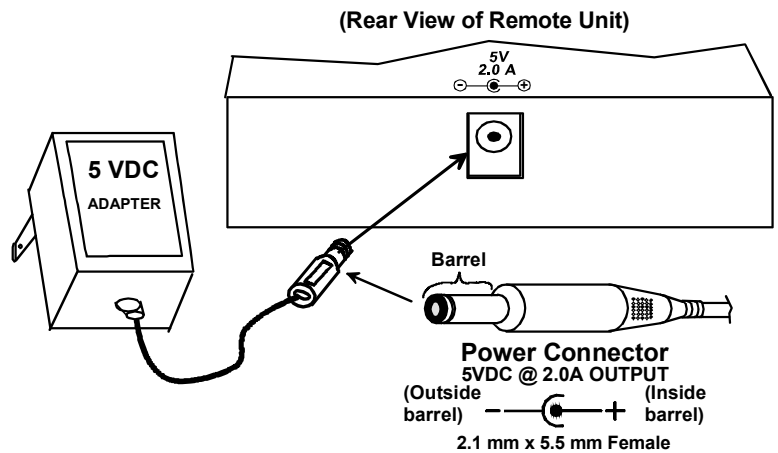

Figure 4- Connect the AC adapter to the Remote Unit
2. Connect the AC adapter power connector to the 5VDC port on the Remote Unit. Plug the AC adapter into a power outlet. The red "Power" LED on the Remote Unit should illuminate, indicating that a proper power connection has been made to it. (See Figs. 4 and 5.)